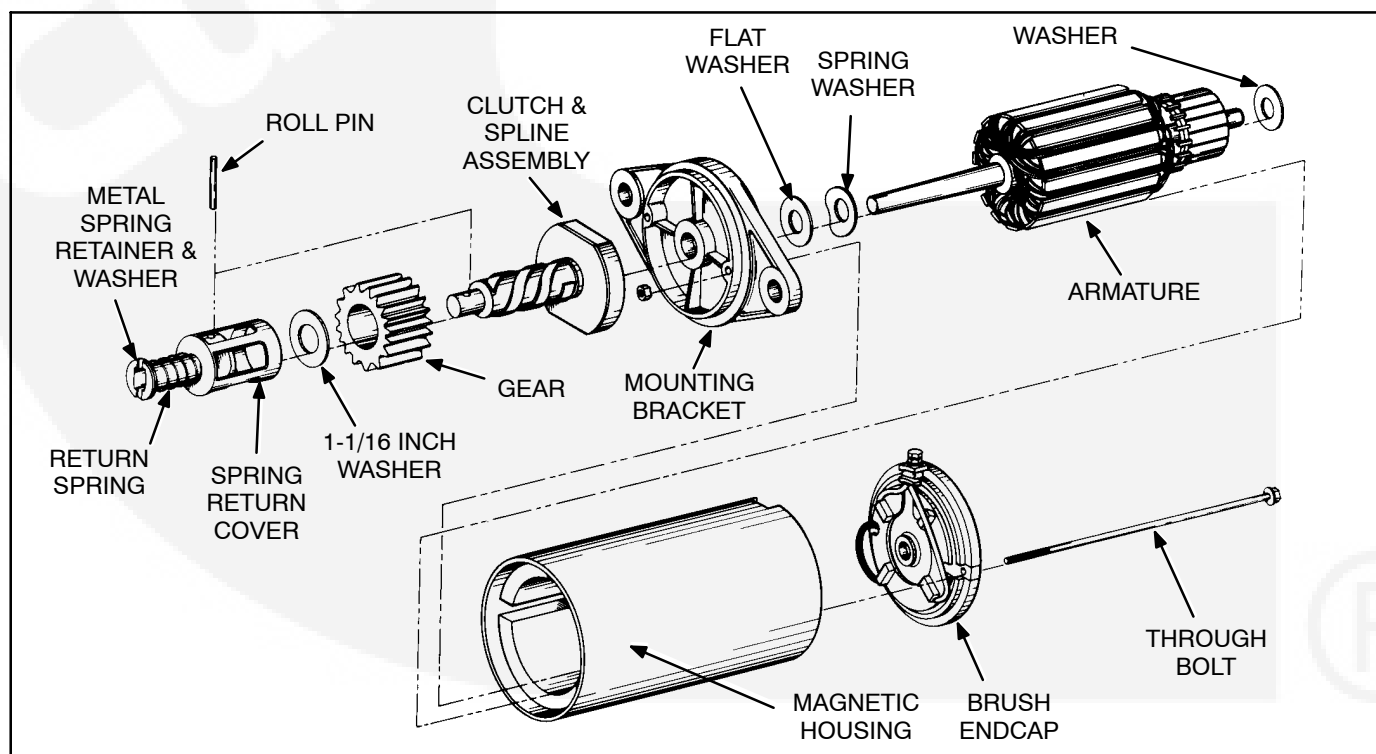

FIGURE 8-34. STARTER ASSEMBLY
8. Place spring washer and flat washer on shaft as shown in Figure 8-34.
- A. Place 1-1/16 inch O.D. washer over end of shaft. See Figure 8-34.